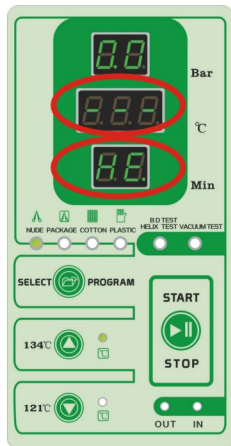

Fig. 7.4-1
(1) **Heating coil preheating stage:** press the button “Select program” select the program the instruments which need be sterilization. then press the button “START/STOP” , the “operation display window” show “HE” , the “pressure display window” show “-P” , the “temperature display window” show scrolling “---” . (Fig.7.4-1)